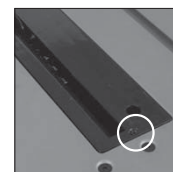

Fig. 43
- Remove the table access plate by removing the countersunk head screw from the front edge of the access plate. (Fig. 43)